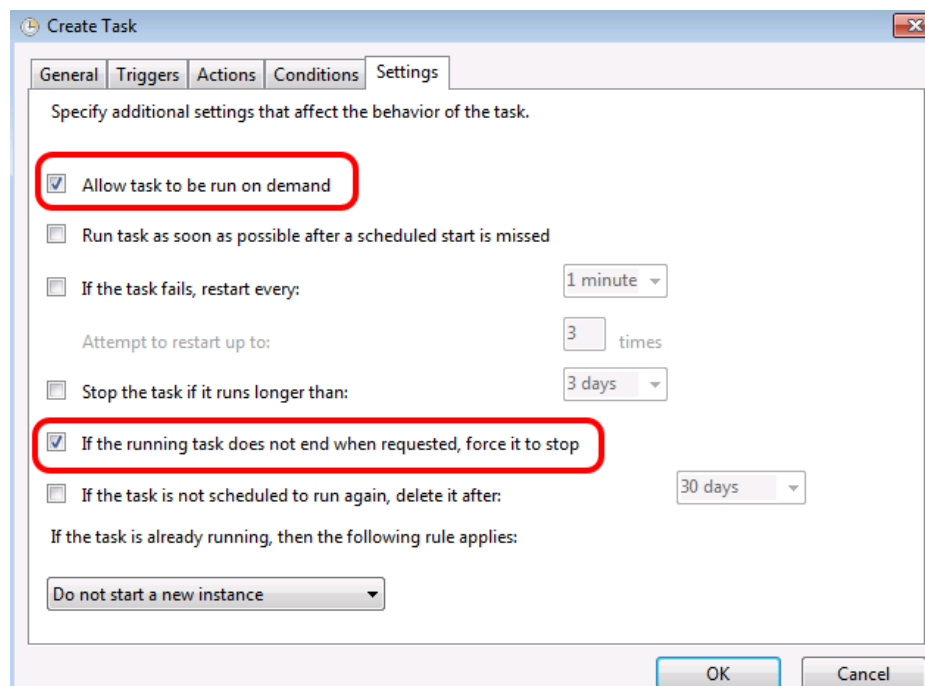

Fig. C.33: New Settings configuration
STEP 7 – In *Create Task* window please select *Tab Settings*, select *Allow task to be run on demand* and *If running does not end when request force it to stop* checkboxes. Confirm with OK (Fig. C.33).